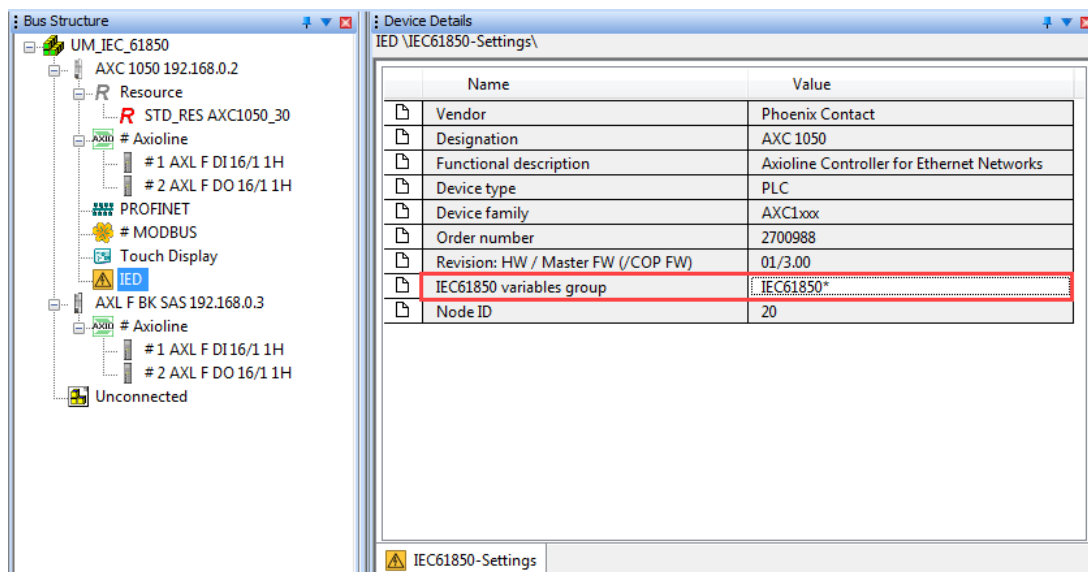

Figure 3-1 Defining designation for the IEC 61850 variable group
- Add the wildcard * at the end of the group designation (see example in Figure 3-1).